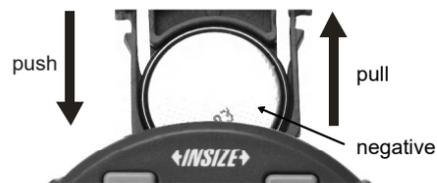

fig.1
1. Install and remove battery(CR2032), the negative side of battery should face out (fig.1).